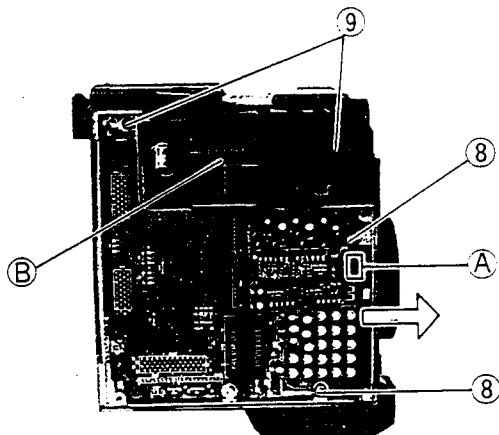

Fig. 2-11
- (1) Remove two screws (9) which secure microphone amp block (B) on the frame. (refer to Fig. 2-11)
- (2) Remove a connector (B') and take off the block.